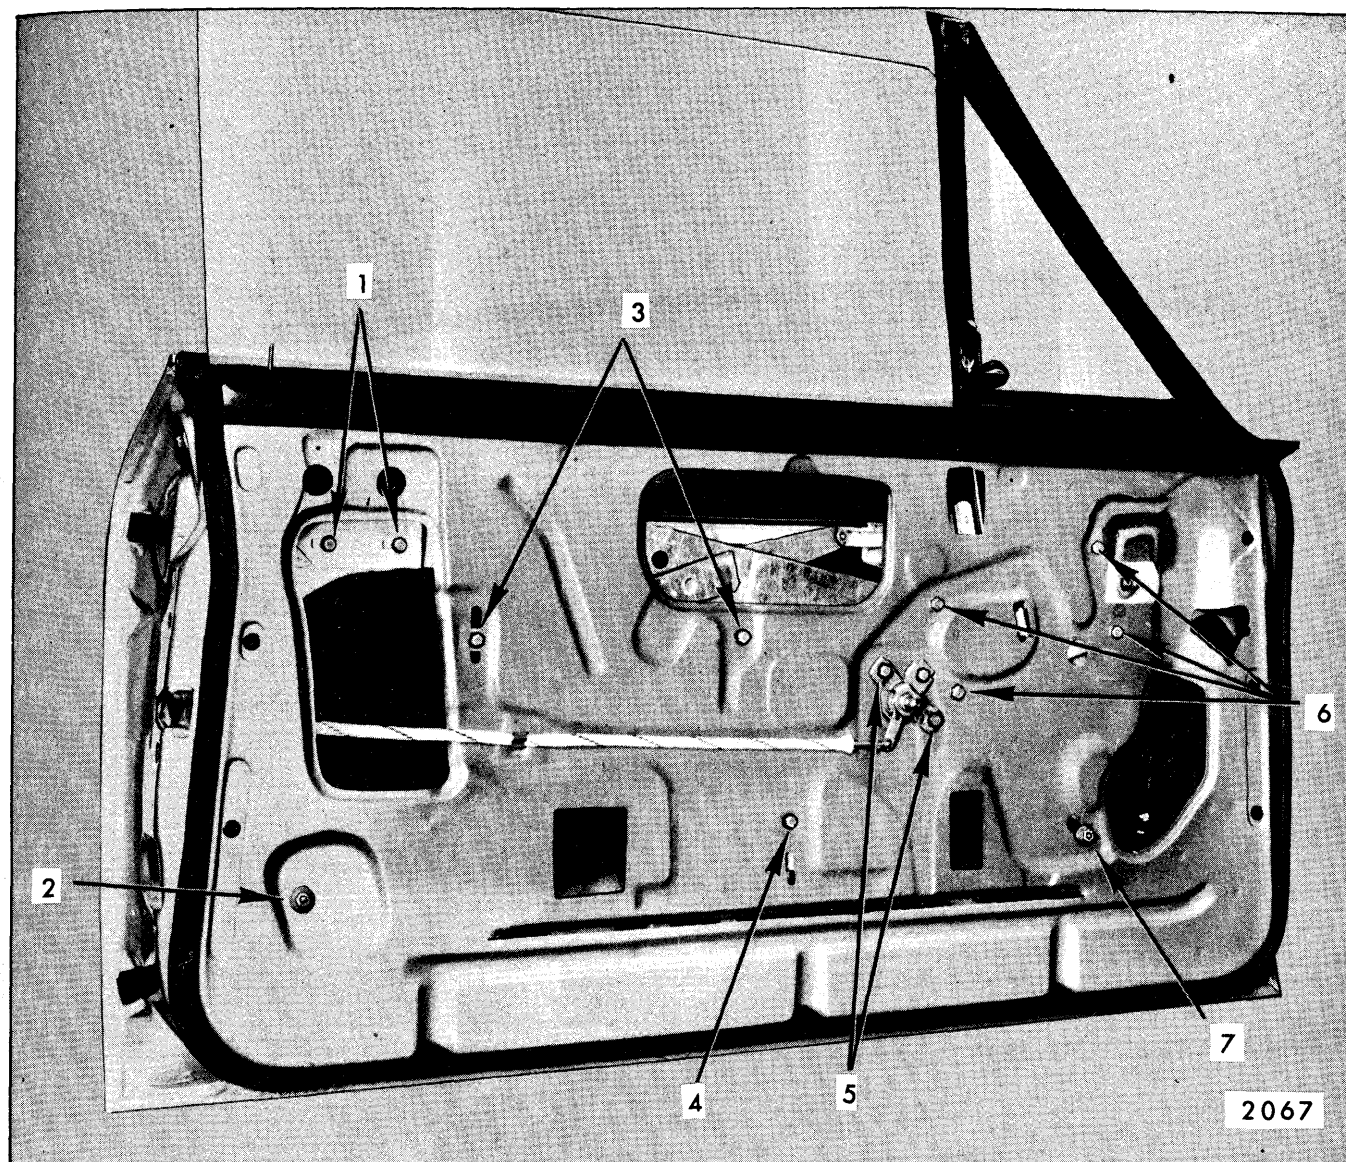
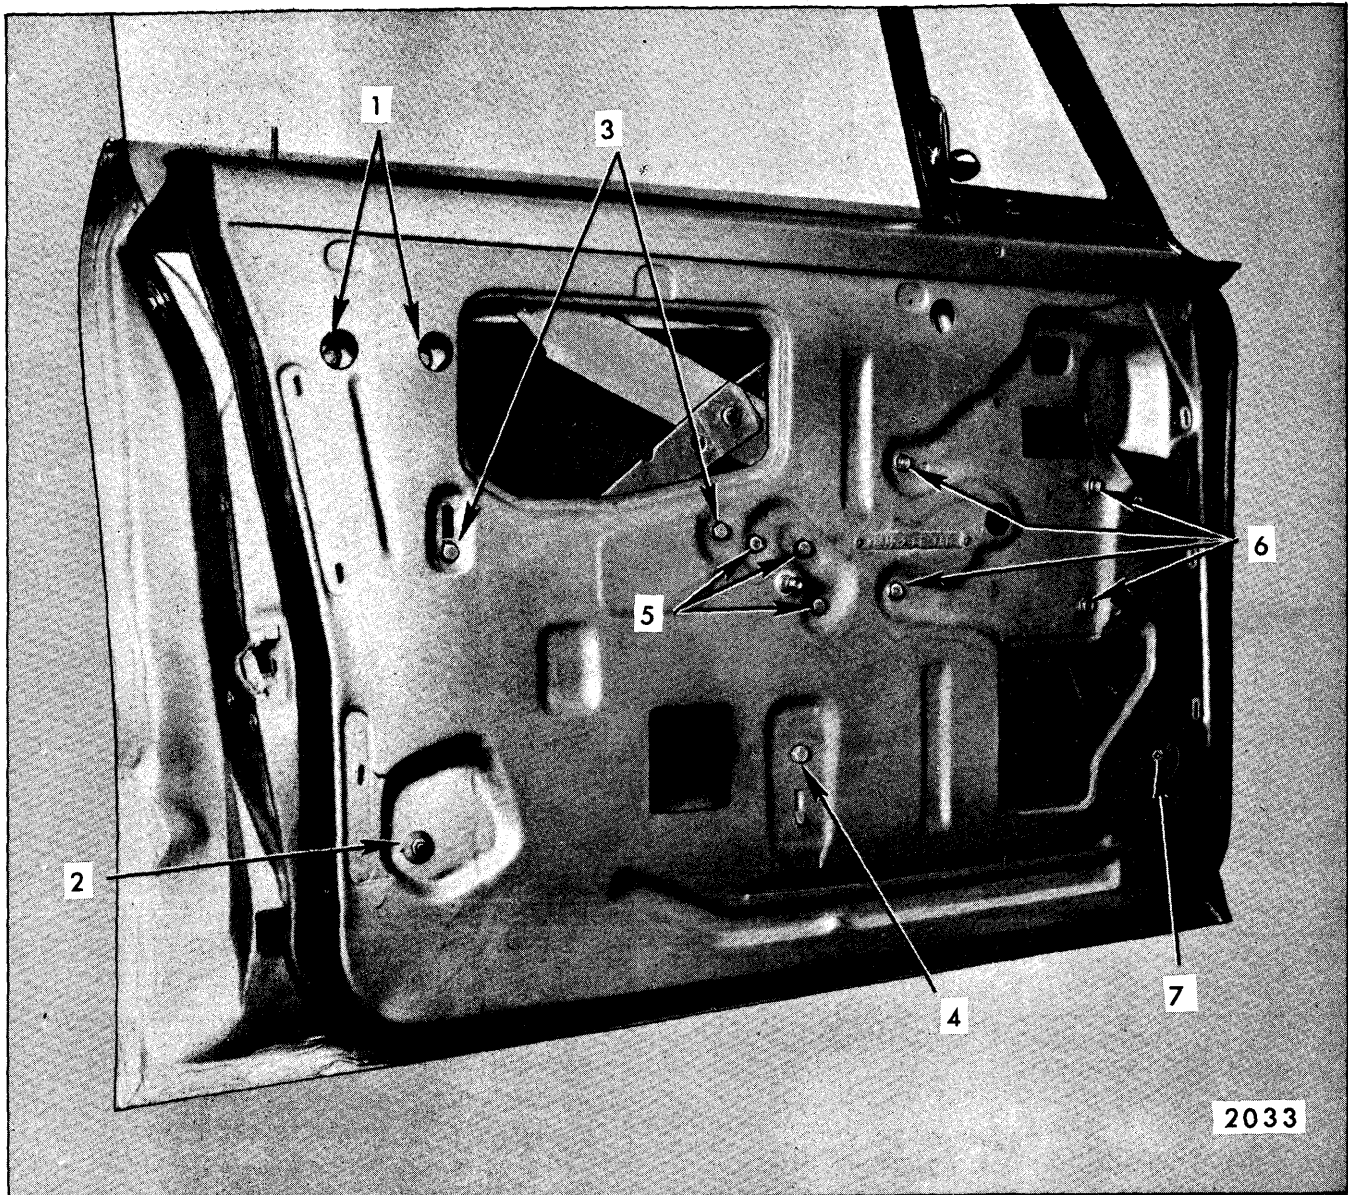

Fig. 7-82—Front Door Hardware - "A-17 and 67" Styles
Fig. 7-87—Front Door Hardware - "A-39" Style
- Raise door window to a position almost fully closed (see Fig. 7-82).
- Remove two bolts securing guide plate to glass lower sash channel and remove guide plate (see Fig. 7-82).
NOTE: Figure 7-82 is for "17 and 67" Styles. Refer to Figure 7-87 for "39" Styles.
3. Raise door window. Remove sash channel guide plate, front up-stop and inner panel cam (see Fig. 7-87).